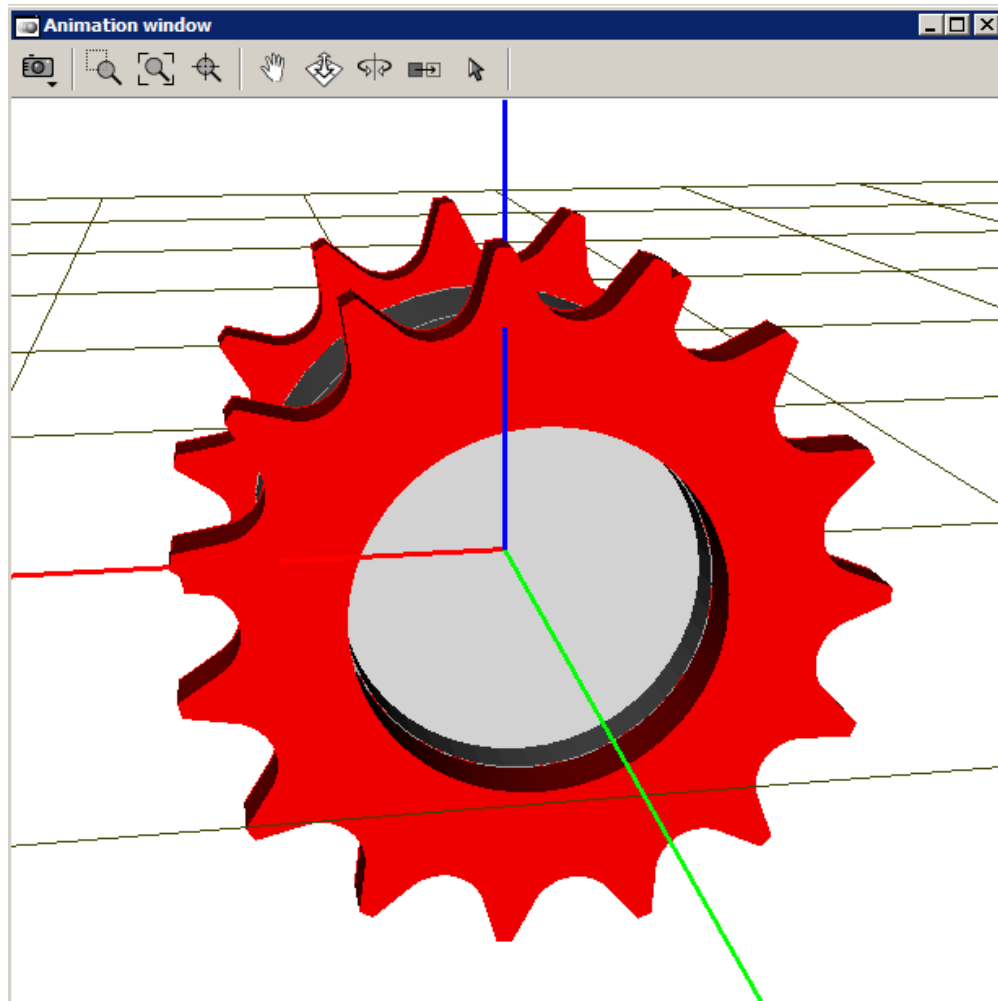

Figure 1.13. Sprocket preview
11. Use the  button to preview the sprocket, Figure 1.13. Note the sprocket radius is computed automatically by the link length,  $t_w / t_t$  ratio and number of teeth so that the final variant can differ from the current one.